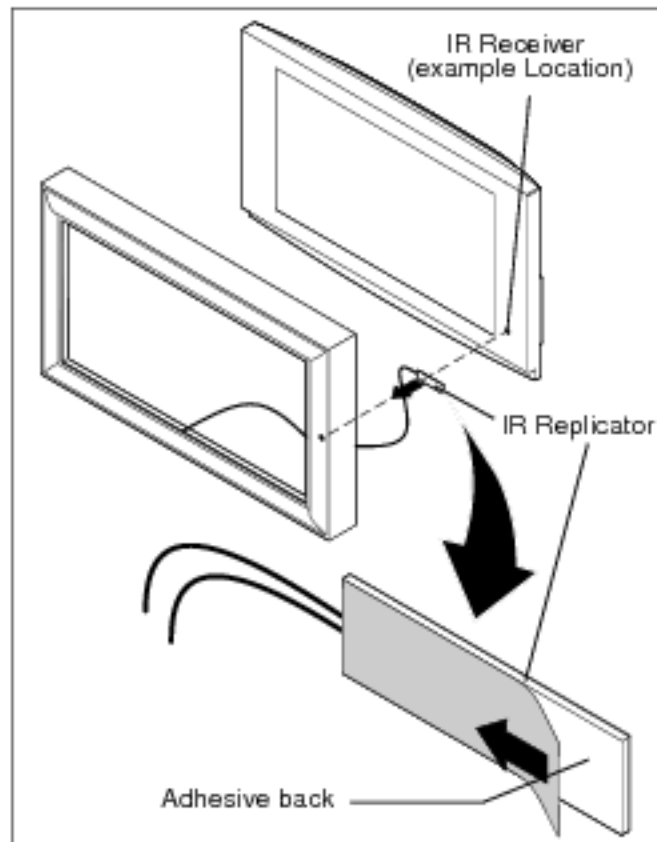

Figure 6
10. Locate IR receiver on display. (See Figure 6)
(See Figure 6)